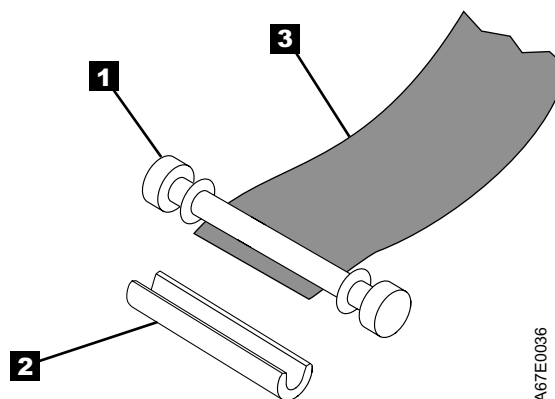

Figure 48. Removing the C-clip from the leader pin. Use your fingers to push the C-clip from the leader pin.
5. On the leader pin ( **1** in Figure 48), locate the open side of the C-clip ( **2** ). The C-clip is a small black part that secures the tape ( **3** ) to the pin.